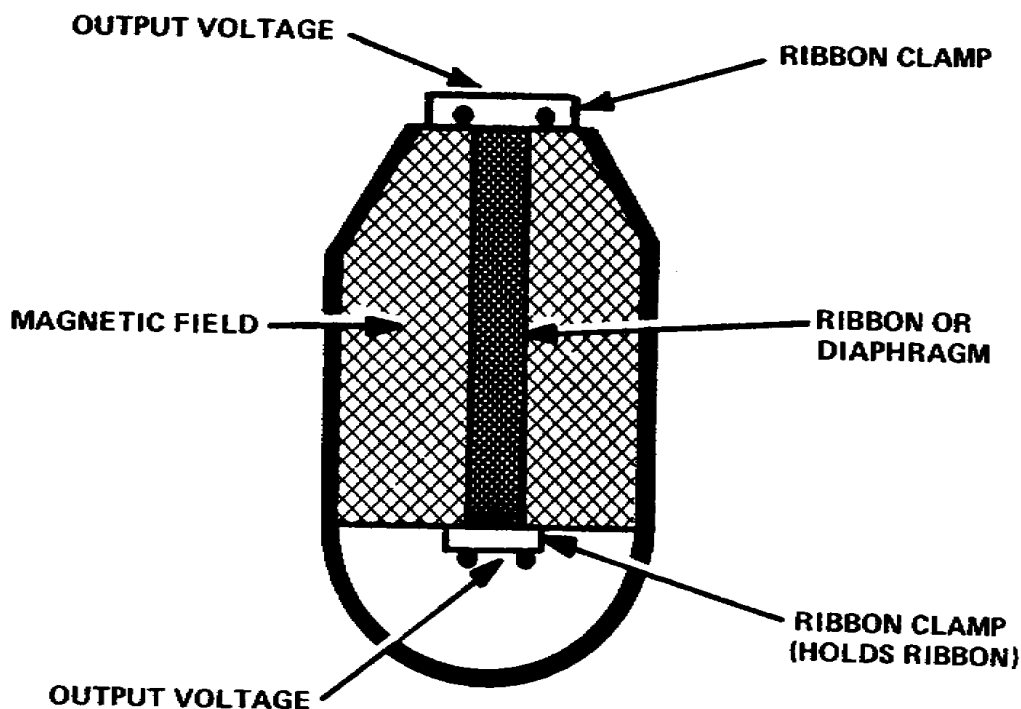

Figure 2-28. Velocity (ribbon) microphone
f. Velocity Microphone. Because of its pickup element, manufacturers and studio broadcasters also call the velocity microphone a ribbon microphone. Do not use the velocity microphone outdoors or in a studio recording situation where it will have to be moved a great deal. Strong winds or rough handling could cause damage to the ribbon (fig 2-28).
(1) The velocity microphone favors low over high frequency sounds and consequently may be used to deepen a voice which is too high in pitch. The closer a performer is to this microphone the deeper his voice will sound.
(2) When used in its normal mounted position, the velocity microphone possesses two live and two dead sides. Its pickup pattern is bidirectional. A performer may talk into either of the live sides of the microphone, or two performers may use both live sides alternately or simultaneously.